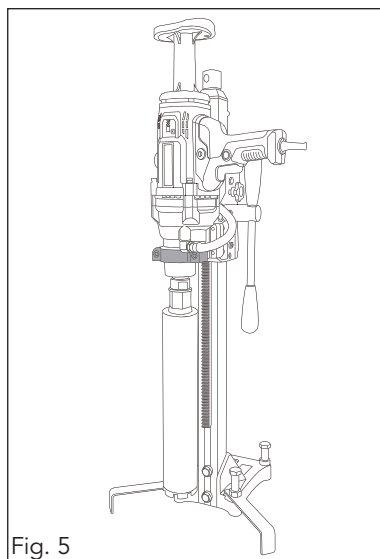

Fig. 5
4. Mount the core drill onto the drill stand, re-attach the removed part of the collar (2) around the core drill gear housing and tighten using the hex key (13) (fig. 5).